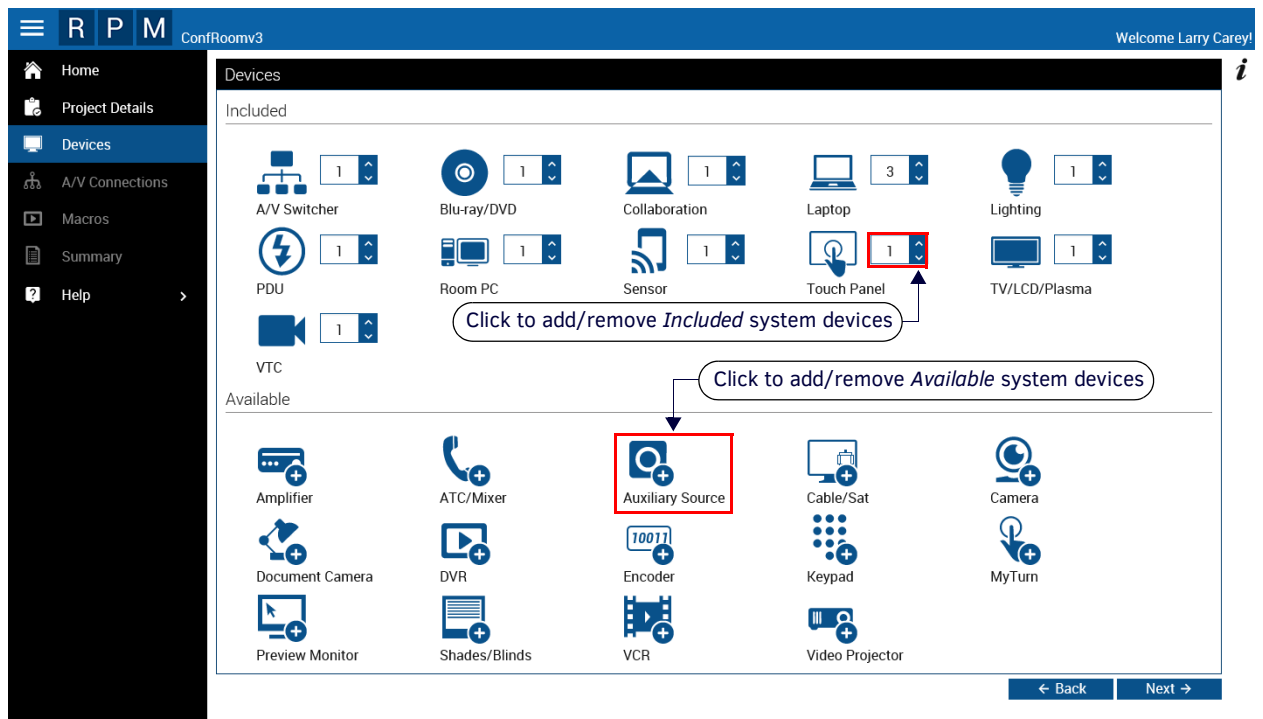

FIG. 25 Sample Device Selection page
4. Click **Next** to proceed to the *Devices* page. Use the options on this page to specify the devices to be included in this system (see FIG. 25 on page 20).
- Click **Next** to proceed to the *Select the Devices in your System* page. Use the options in this page to review the devices currently included in the system, and add/remove devices from the system. Note that specific devices are pre-selected based on the System Type selected for this project (FIG. 25):